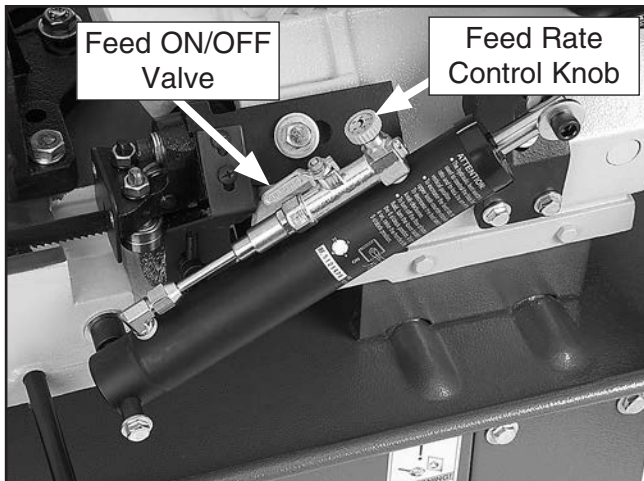

Figure 41. Location of feed ON/OFF valve and feed rate control valve.
1. Raise bow to maximum height to remove spring tension. Close feed ON/OFF valve to lock bow in place (see **Figure 41**).
6. Open feed ON/OFF valve, then slowly rotate feed rate control knob clockwise to a slow feed rate until saw begins to cut workpiece (see **Figure 41**).